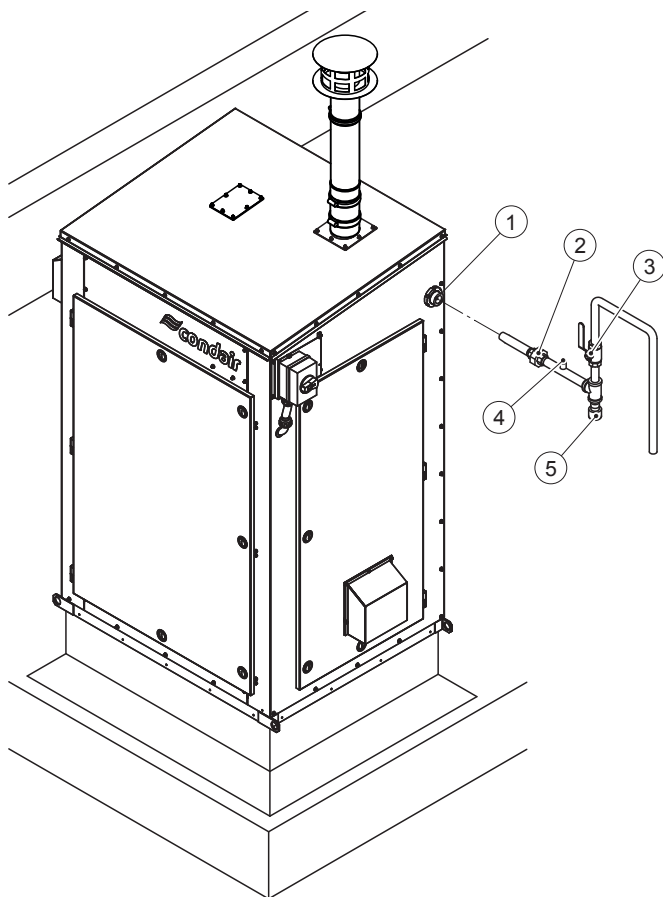

Fig. 13: Overview Gas installation
The gas supply installation must be carried out in accordance with Fig. 13 on page 42 and the applicable national and local codes for gas supply installations. In addition, the following requirements must be satisfied:
- A certified manual gas shut-off valve (see item 3 in Fig. 13 on page 42) must be installed immediately upstream from the humidifier. A thermally actuated gas shut-off device may also be installed upstream from the humidifier. Install such a device following all local codes and regulations.